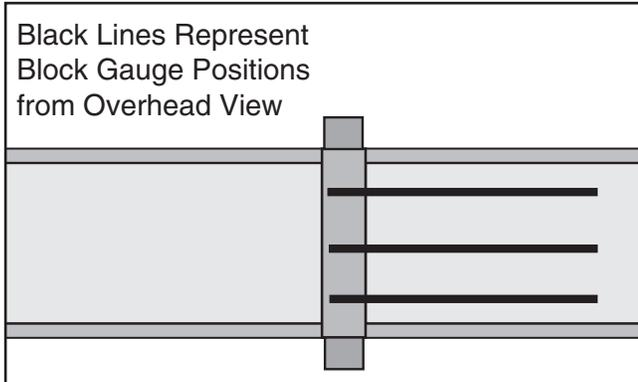

Figure 100. Block gauge positions for checking lower cutterhead height.
- Place block gauge in each position shown in **Figure 100** on planer table so it hangs over lower cutterhead.